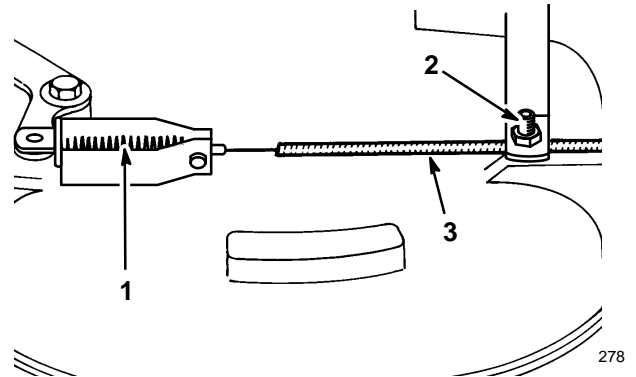

Figure 29
2. Loosen cable clamp screw until brake cable conduit slides (Fig. 29). Pull cable to remove slack, but do not put tension on spring. Tighten screw to lock adjustment in place.